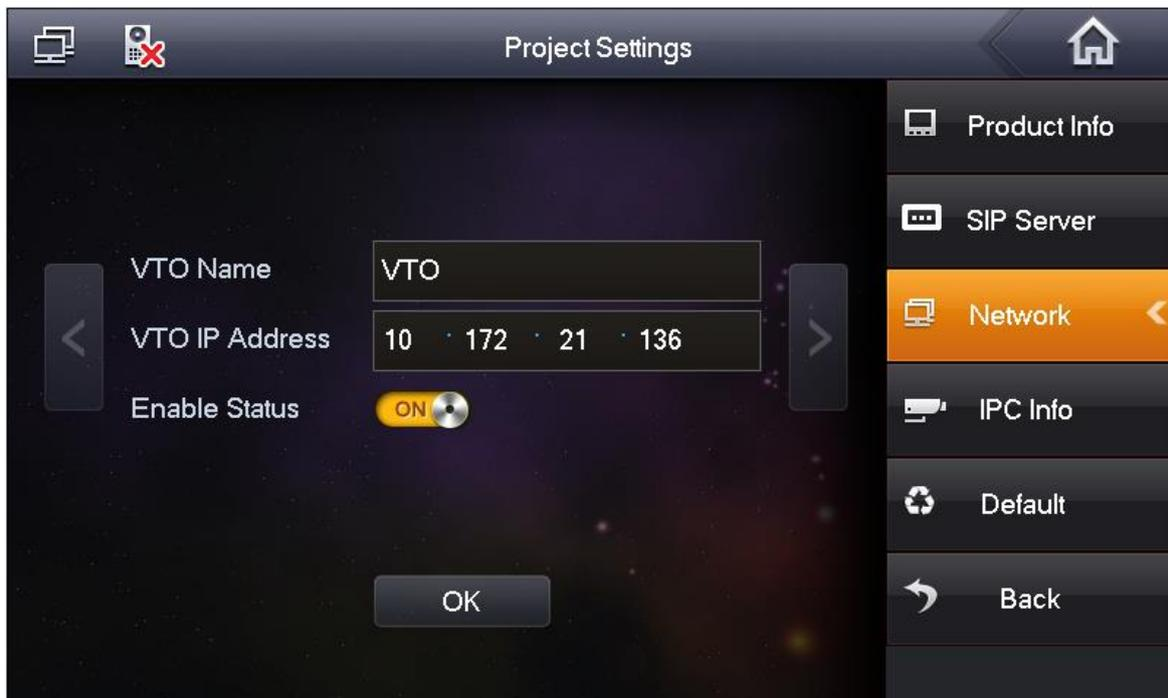

Figure 2-7
Step 6. Click Network. See Figure 2-7.